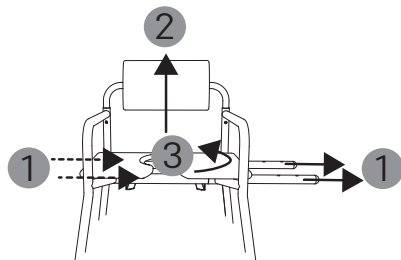

Fig. 23
2. Next, push the plug-in tubes out sideways (left or right) by pressing the end caps (1, Fig. 23) so that the tubes protrude on the opposite side. You can now pull out the plug-in tubes (1, Fig. 23.)
3. The seat surface is now free to move and can be raised (2, Fig. 23) and rotated 180° (3, Fig. 23).